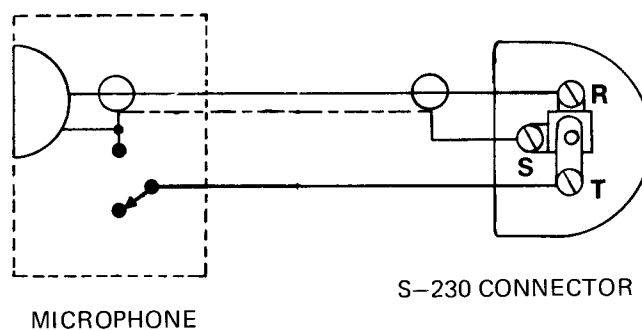

Figure 2-1. Microphone Connections
**2-8. MICROPHONE.** Use a microphone with a flat frequency response. The microphone should have a cardioid pattern to reduce pickup from the back and sides. Connect the microphone as illustrated in figure 2-1 to insure proper performance.